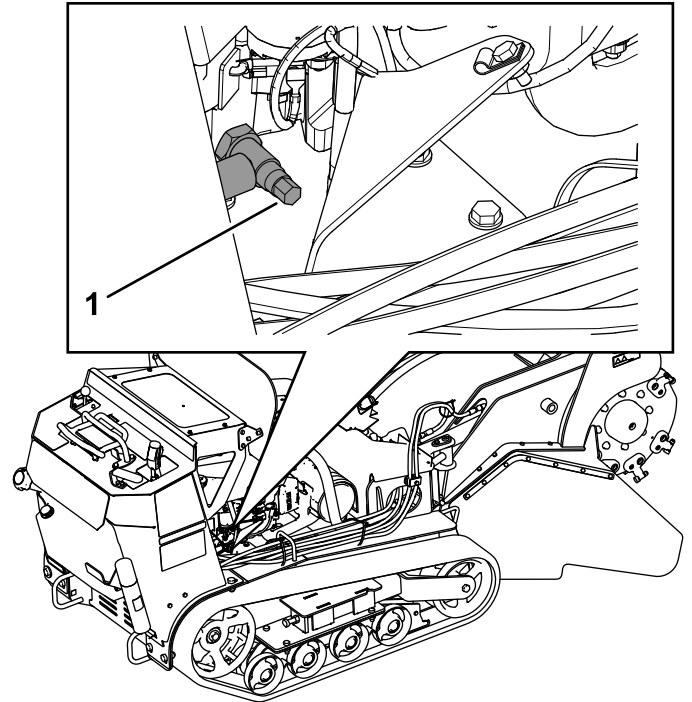
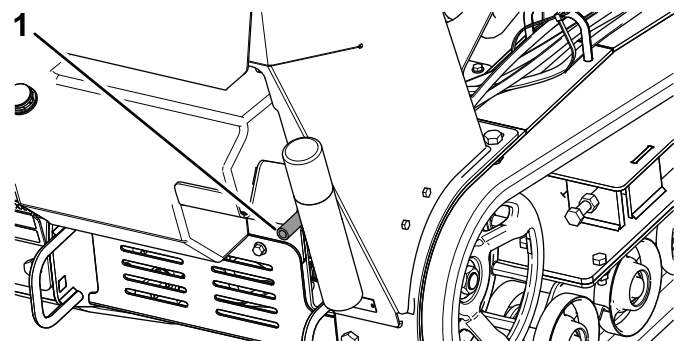

Figure 32
Figure 33
5. Place a pan below the drain hose. Rotate the oil drain valve to allow oil to drain (Figure 32 and Figure 33).